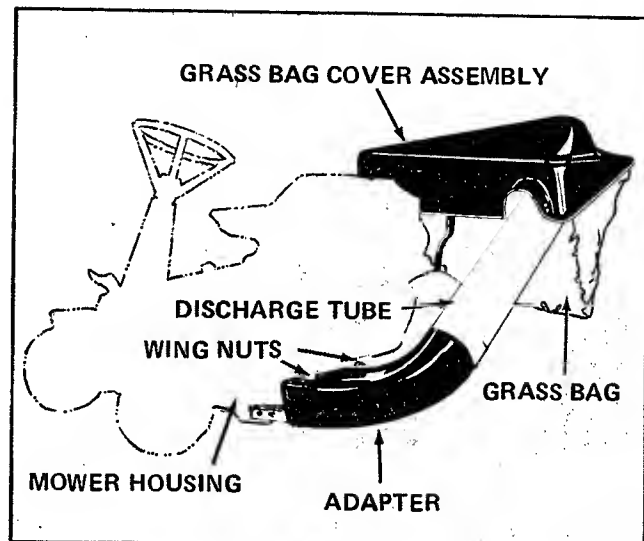
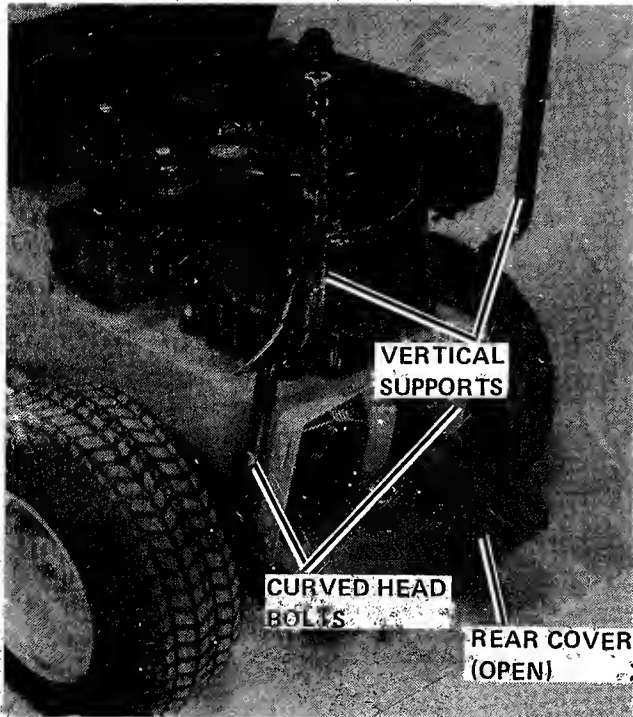
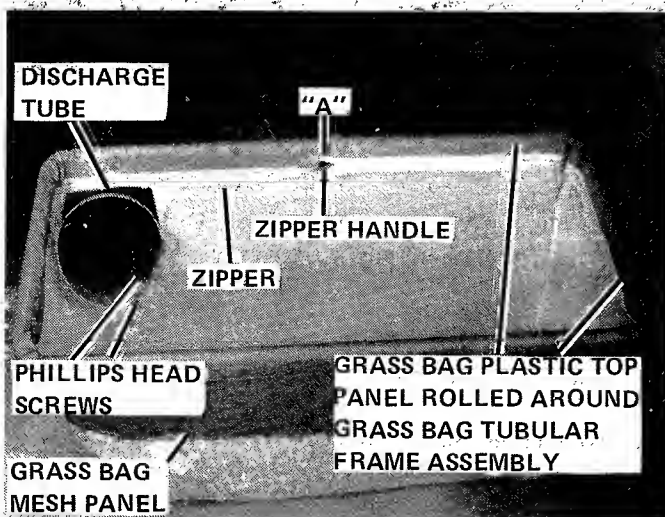

Figure 1.
Figure 3.
Figure 4.
1. See Figure 1. Remove two 3/4-inch long carriage bolts, flat washers, lockwashers, and nuts attaching deflector to housing. Remove deflector from housing. Secure adapter to housing with two 1-inch long carriage bolts (installed from inside of adapter) and wing nut assemblies. Be sure to replace discharge deflector, using wing nuts, whenever adapter is removed.
3. See Figure 3. Attach two vertical supports to rear of unit. Holes are pre-stamped in tractor frame. Use two curved head bolts, lockwashers, and nuts to fasten each vertical support to unit.
4. See Figure 4. The discharge tube is shipped as a flat plastic sheet. Roll it into a tube and hold in shape with phillips-head screws. Install screws from inside with a flat washer under head of screw. Place another flat washer on outside of tube followed by a lockwasher and nut. Install discharge tube on end of adapter as shown in Figure 1.
5. See Figure 3. The grass bag tubular frame assembly, on which the grass bag hangs, has two tubular supports welded to its front side in position to fit over vertical supports. To install bag on this frame, bag zipper must be completely unzipped, allowing grass bag plastic top panel to unfold.
7. Roll plastic top panel up and over frame tube and bring two halves of zipper together on inside of frame. Connect ends of zipper together at point "A". See Figure 4. Work zipper handle counter-clockwise completely around frame.
8. See Figure 3. Install frame and bag assembly in vertical supports. Insert rear end of discharge tube in hole at left front corner of grass bag. See Figure 4.